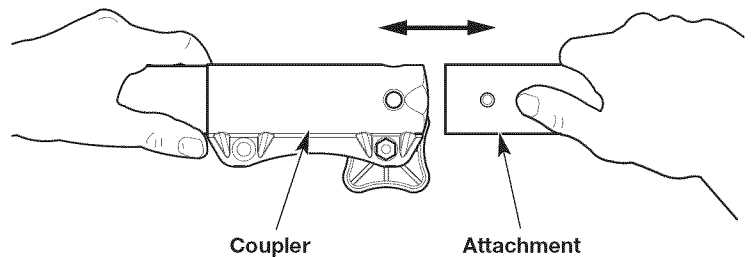
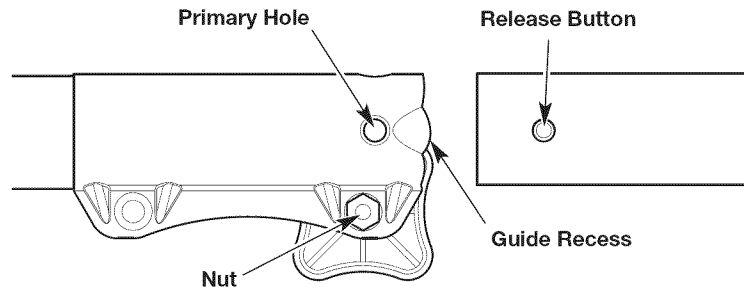

Fig. 3
Fig. 5
- Align the release button with the guide recess (Fig. 5).
- Push the attachment straight into the coupler (Fig. 3) until the release button snaps firmly into the primary hole (Fig. 5).
NOTE: Do not tighten the nut (Fig. 5).
- Press and hold the release button (Fig. 5).
- Pull the attachment straight out of the coupler (Fig. 3).